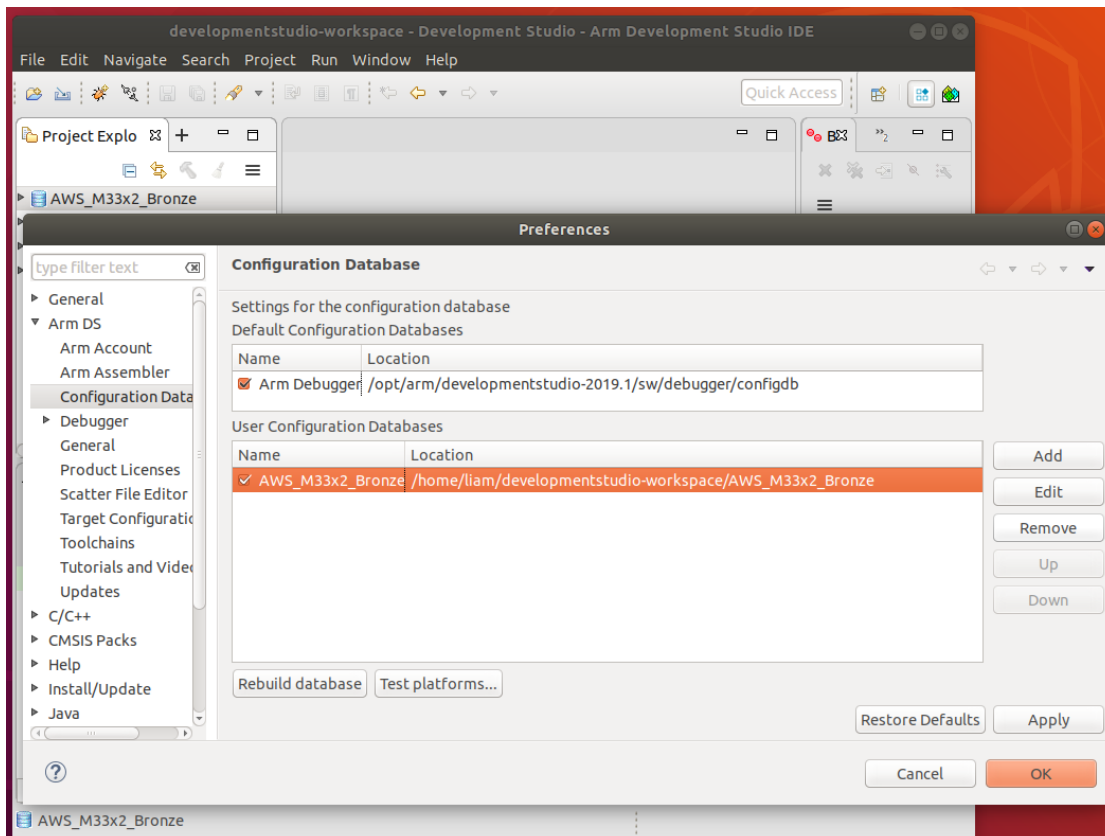

Figure 7 Rebuilding imported configuration database
5. In the **Preferences** dialog choose Arm DS -> Configuration Database option and select the imported configuration database under "User Configuration Databases". Now, click on the "Rebuild database" and "OK" to complete the process as shown in Figure 7 Rebuilding imported configuration database